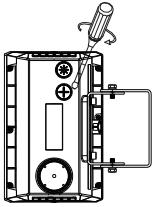

Fig. 7
1.) Using a screwdriver, remove the KO plug from the back of the luminaire (Fig. 7).